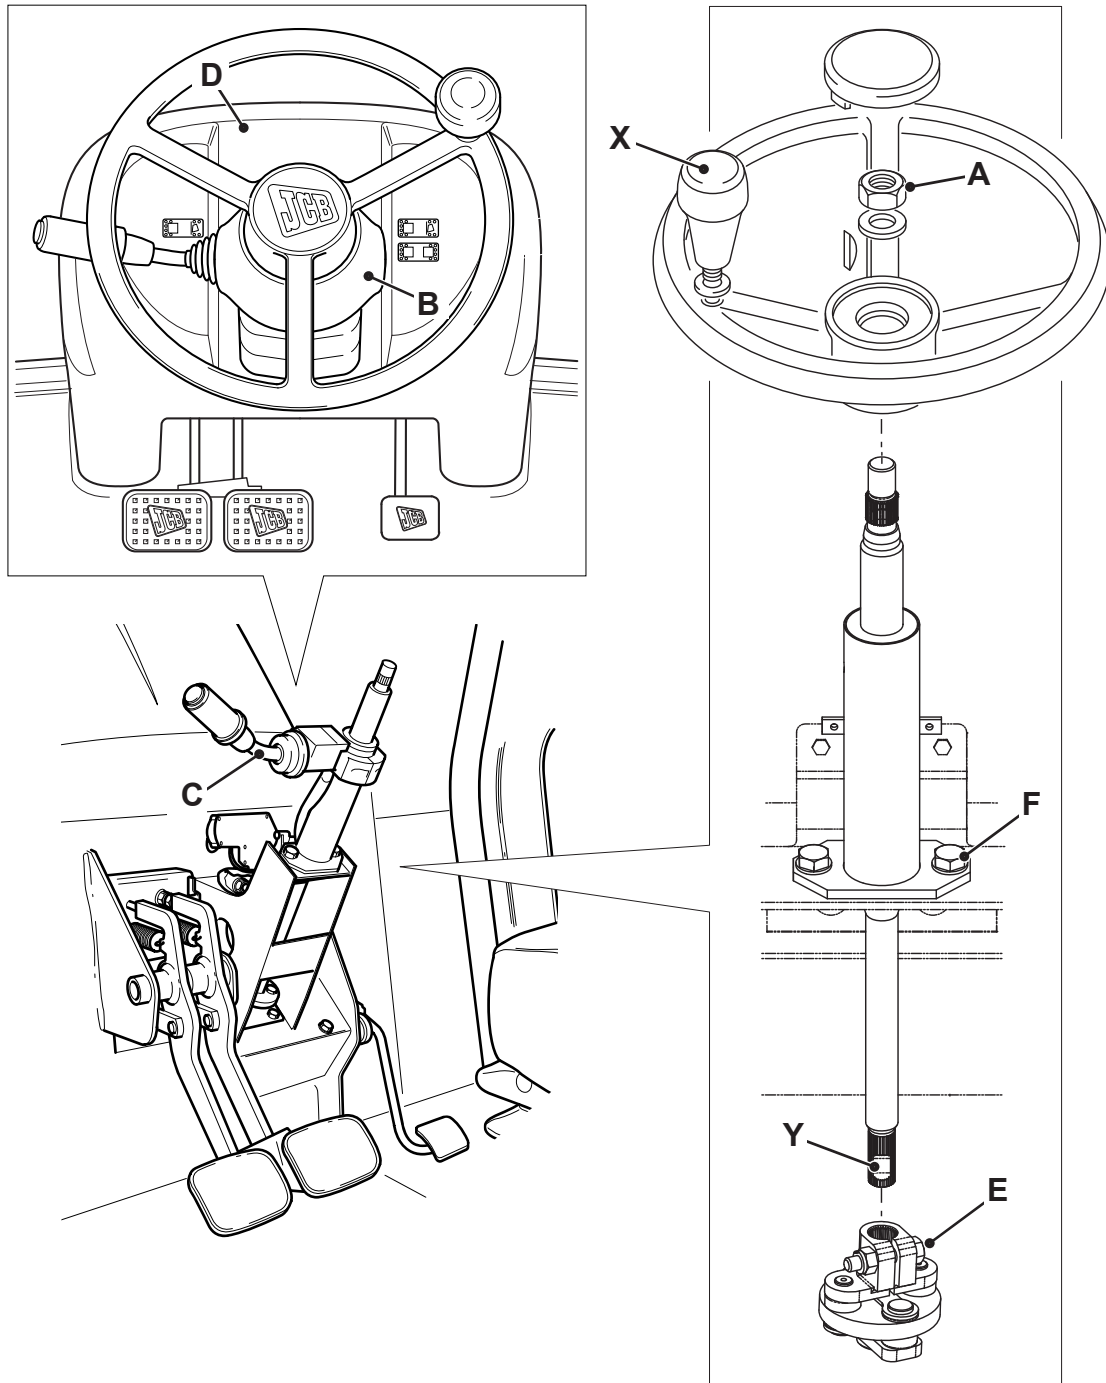

Fig 1.
- 3 → Fig 1. \(D-3\). Working in the cab, undo the nut **A** and remove the steering wheel as shown.